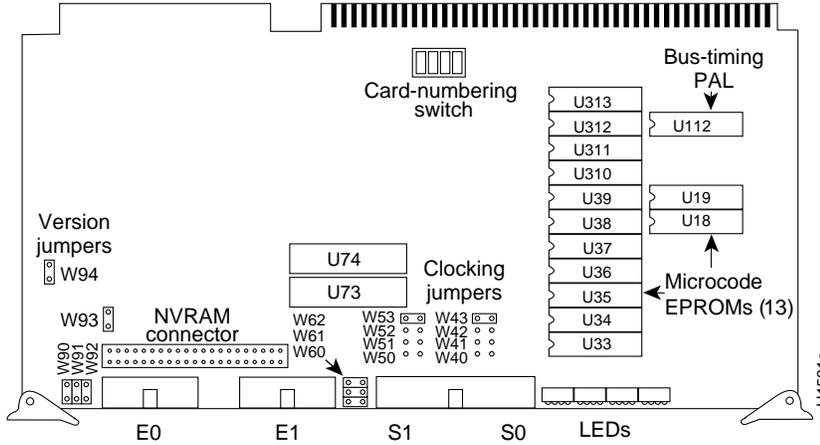

Figure 5-28 CSC-MCI Multipoint Communications Interface Card—Component-Side View
- CSC-MCI multiport communications interface card, Figure 5-28